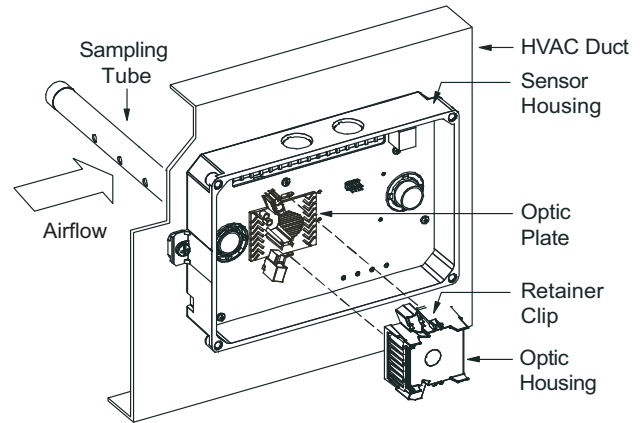

Fig. 49 — Sensor Cleaning Diagram
1. Disconnect power from the duct detector then remove the sensor's cover. See Fig. 49.